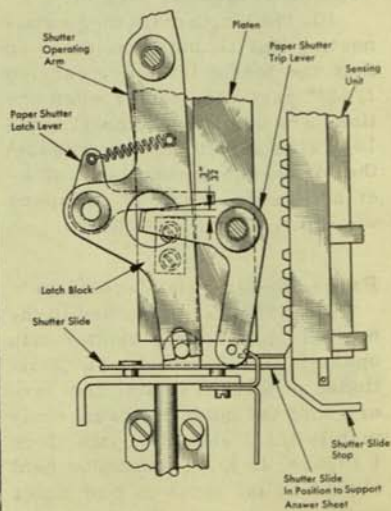

Figure 11
1. With the motor key in the normal position the shutter trip operating arms should be positioned so that the shutter trip levers hold the latch levers approximately $3/32''$ above the latch block (Figure 11). This adjustment should be the same on both sides so that the shutter will trip evenly.